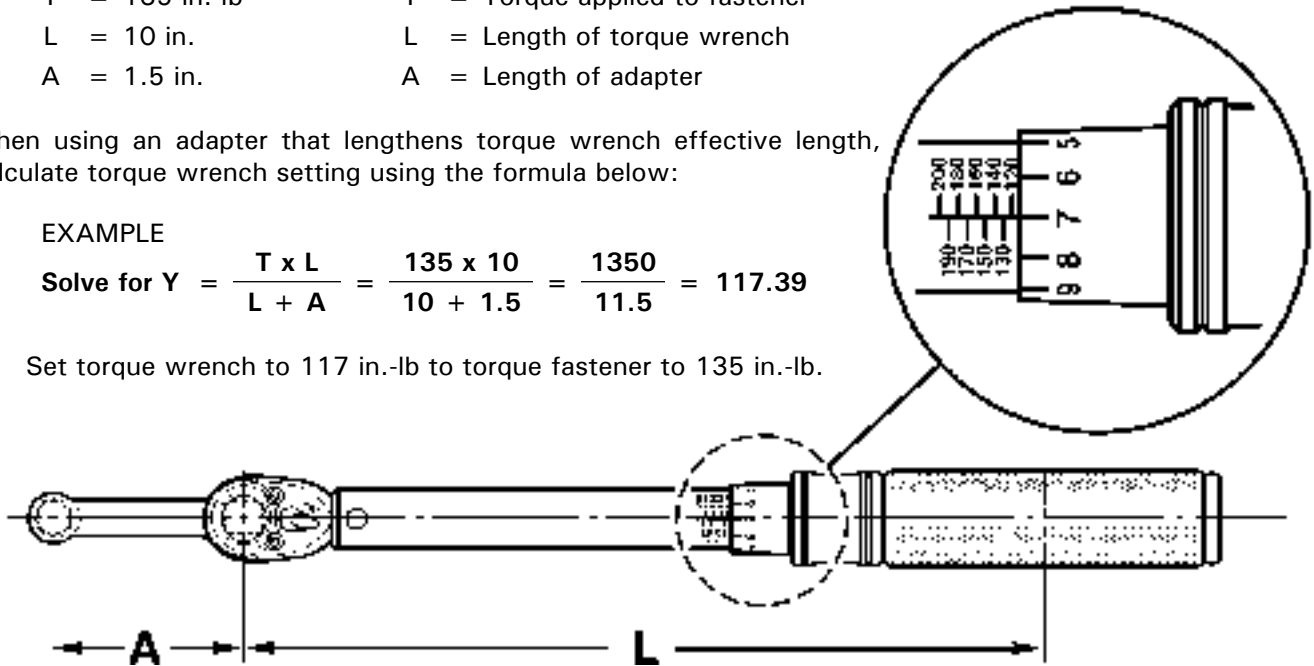

FIGURE 1-9 LENGTHENING TORQUE WRENCH EFFECTIVE LENGTH
4. If special adapters which change effective length of torque wrench are used, final torque value must be calculated using formulas in Figures 1-9 and 1-10.